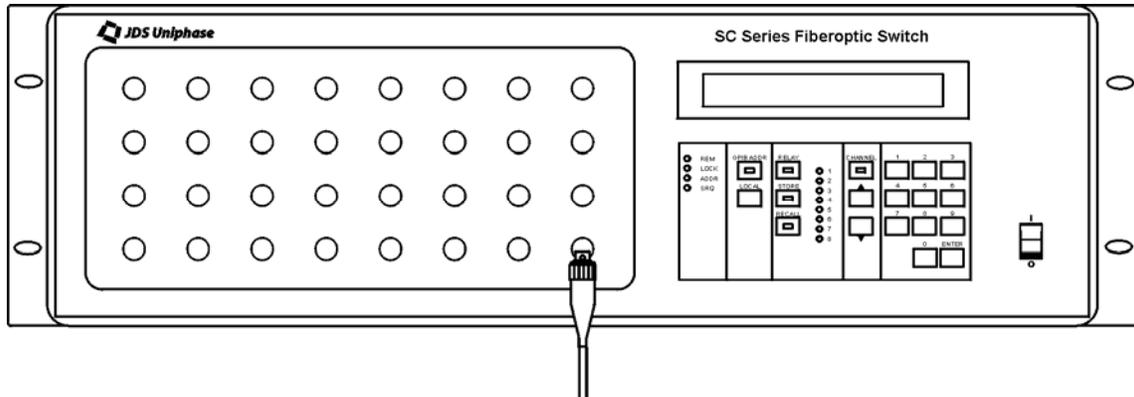

Figure 13: Using a Channel
1. Connect a channel to the front of the switch (Figure 13).